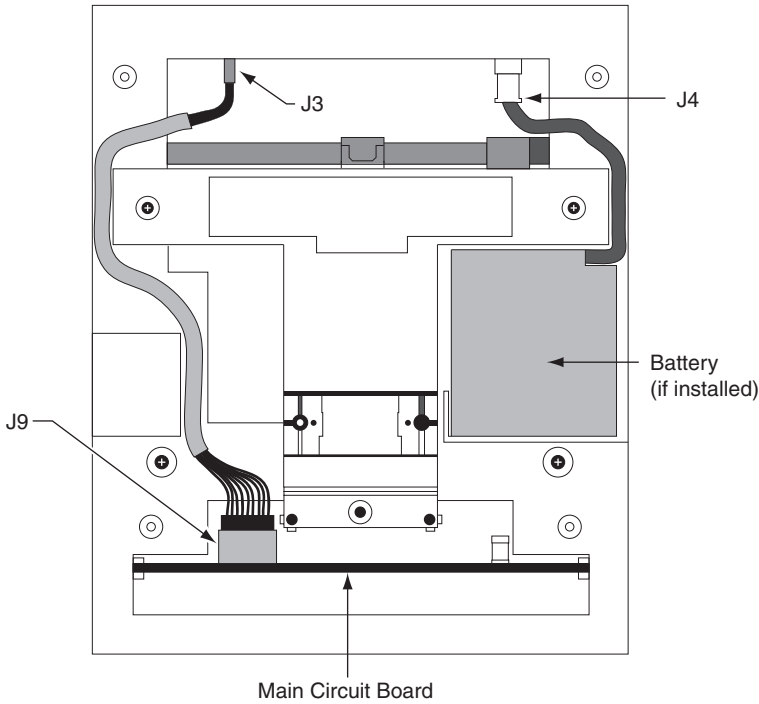

Figure 3
6. Locate the cable that runs from the top panel PCB to the main circuit board. Disconnect this cable from J3 on the top panel PCB. To remove the J3 connector on the top panel PCB, depress the retaining clip on the connector and pull downwards. If the optional battery backup is installed, disconnect the battery cable from J4 on the top panel PCB. See figures 3 and 4 below.
9. Locate the cable that runs from the main circuit board to the top panel PCB. Route the cable as shown in figure 3. Re-insert the connector into J3 on the top panel PCB. Make sure the connector snaps into J3.
CAUTION: If the battery backup option is installed, replace the J7 jumper. Be sure that both pins of J7 are shorted by the jumper. See figure 2. Re-connect the battery cable to J4 on the top panel PCB. See figures 3 and 4.